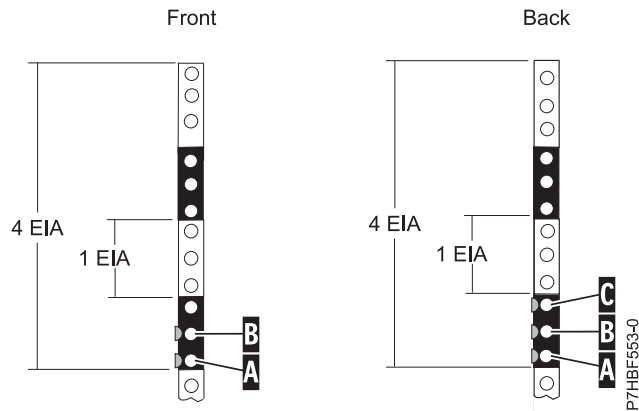

Figure 2. Marking holes on the front and back of the rack frame
3. Begin with the hole identified by the mark (A); count up one hole and place a second mark (B). Mark the rack so the mark can also be seen from the rear of the rack, as shown in Figure 2.
5. Facing the back of the rack and working from the right side, locate the bottom EIA unit that your expansion unit uses. Make a mark next to the bottom hole of this EIA unit (A).
6. Begin with the hole identified by the mark (A); count up one hole and place a second mark (B), as shown in Figure 2.
7. Begin with the hole identified by the mark (B); count up one hole and place a third mark (C), as shown in Figure 2.